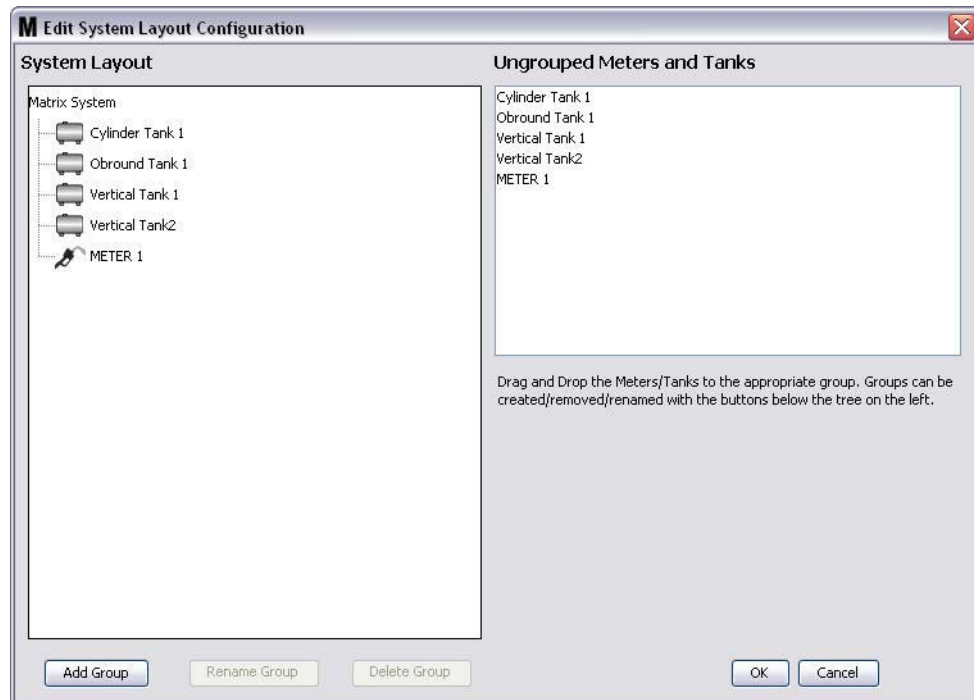

FIG. 142
3. The Edit System Layout Configuration screen shown in FIG. 142 displays.
4. Click the Add Group button (FIG. 142) to create a new device group.